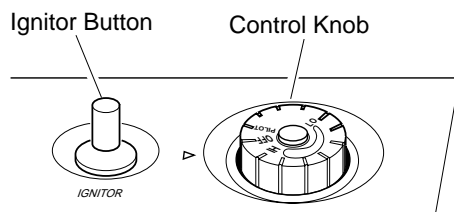

Figure 16 - Control Knob In The OFF Position
4. Wait five (5) minutes to clear out any gas. Then smell for gas, including near the floor. If you smell gas, STOP! Follow "B" in the safety information at the top of column 3, page 10. If you don't smell gas, go to the next step.
5. Turn control knob counterclockwise to the PILOT position. Press in control knob for five (5) seconds (see Figure 16).